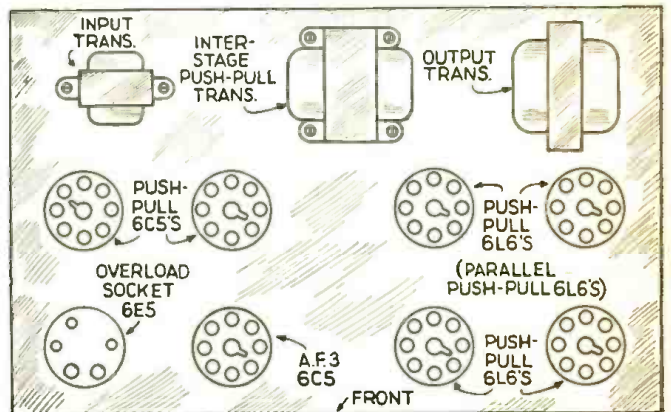
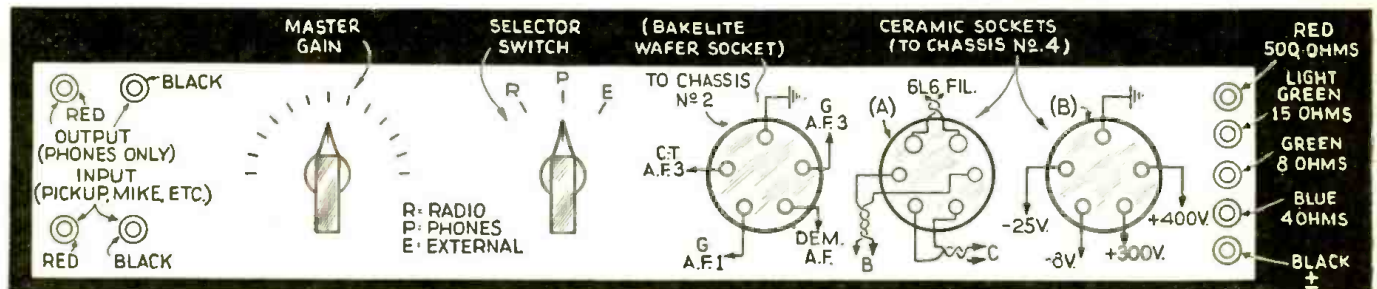

Fig. 15. Proper spacing and placement of components helps considerably to reduce hum.
Fig. 16. Use this chassis independently as a Public Address amplifier; or inter-connect it to chassis Nos. 1, 2 and 4 by means of plug-in cables (see Fig. 13).
The control panel on the front skirt of the chassis is not shown in Fig. 15. Instead, it is shown in detail in Fig. 16. In Fig. 16 the selector switch is marked *R, P, E*, to designate, respectively, *radio, phones, and external*. The audio output to loudspeaker is taken from tip-jacks at extreme right; those at upper-left feed headphones only. The tip-jacks at lower-left connect to magnetic or crystal pickup, carbon or velotron mike, etc. Ceramic sockets (A) and (B) connect to Chassis No. 4.